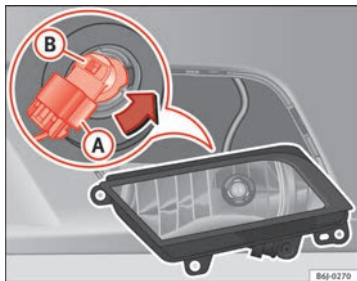

Fig. 142 Front fog light
- Remove connector ⇒ Fig. 142 (A) from the bulb.
- Turn bulb holder ⇒ Fig. 142 (B) to the left and pull.